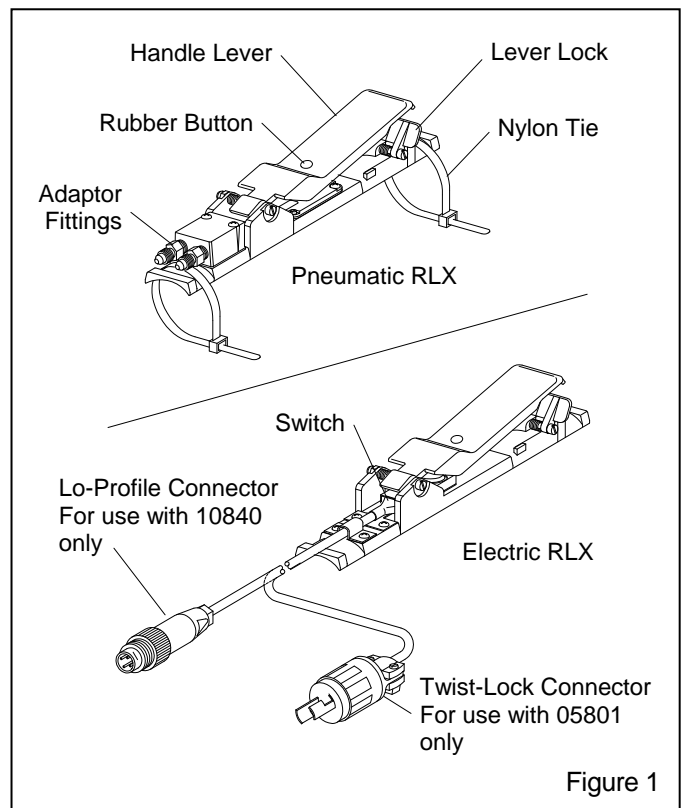

Figure 1
1.3.1 The principal components of the control handle are shown in Figure 1. The control handle is the main activator of Clemco remote control systems. When the control handle lever is up, it is in the non-blast position. Pressing the control handle lever down activates the remote controls.